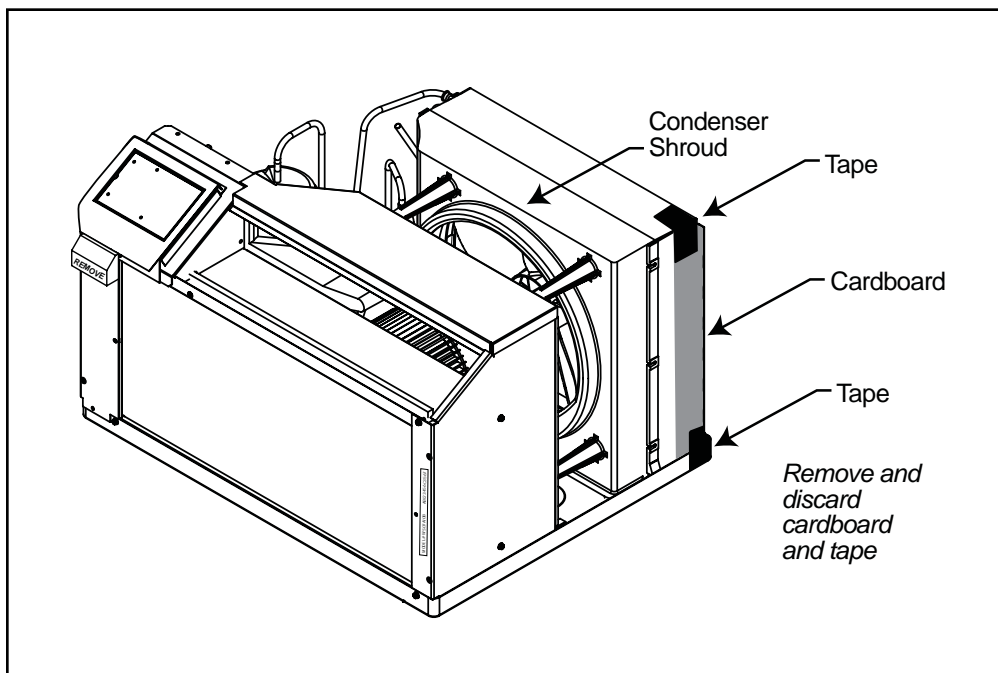

Figure 10
- Check the anchor screws. There should be five (5) in the WSC SLEEVE (two in each side and one in the top center).
- STEP 4** With the help of an assistant, remove the chassis from the shipping carton. Remove the cardboard which is placed against the hairpins and is taped to the condenser shroud (see Figure 10). Be careful not to allow anything to impact against the hairpins as this may result in damage to them. With the help of an assistant, lift the chassis by the basepan and slide it into the sleeve until it contacts the rear grille. With the chassis in proper position, the front edge of the basepan must extend out 4-3/4 inches from the front (side) edge of sleeve.